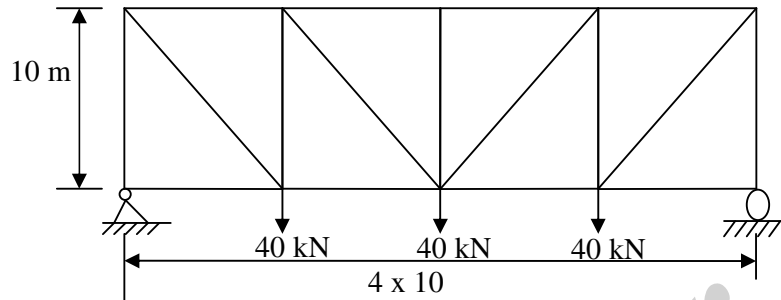

Figure 1
8. Find the forces in members of truss shown in Figure 1 and tabulate the values.